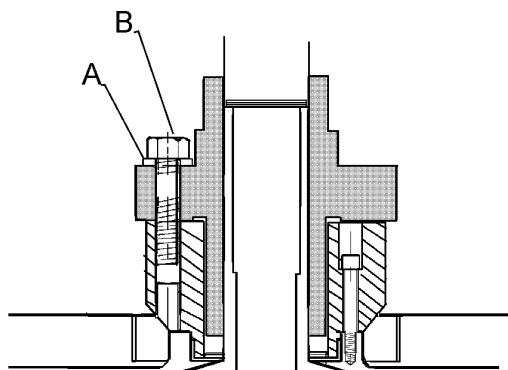

Figure 32 - Removal of Wet End
- Remove the impeller retainer bolt and O-ring; then loosen the seal set screws. (Figure 32, item A).